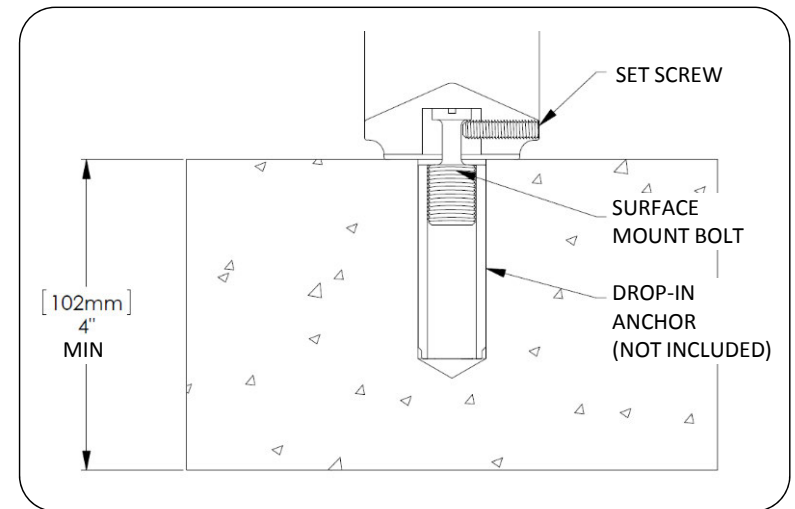

Fig. 5 – Surface mount bolt section view
10. Install set screws as shown in Fig. 5.